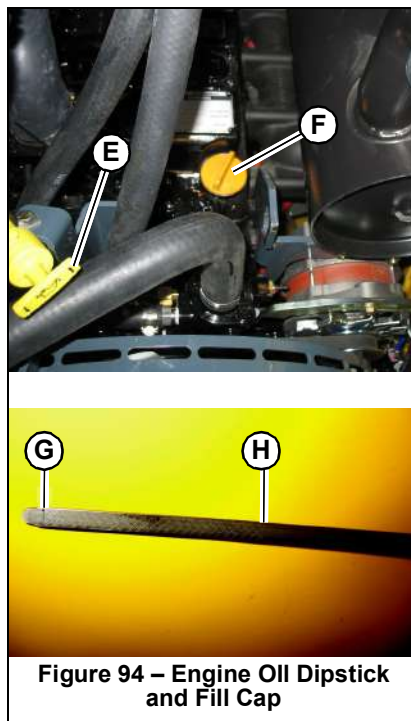

Figure 94 – Engine Oil Dipstick and Fill Cap
5. Twist engine oil dipstick (E, Figure 94) counterclockwise to unlatch it. Remove the dipstick from the engine.
7. Remove the dipstick again. The oil level should be within the “Add” (G) and “Full” (H) markings.
- a. Clean the area around the oil fill cap (F) with a clean cloth.
- b. Remove fill cap (F).
- d. Replace and tighten fill cap (F).
10. Clean the area around oil fill cap (E, Figure 94). Remove oil fill cap (E) and add the recommended type and amount of oil. See “Fluid Capacities/Lubricants” on page 187. Replace and tighten oil fill cap (E) after the oil is added.
12. Check the oil level. Add oil if necessary until the oil level is at the “Full” mark (H, Figure 94) on the dipstick.